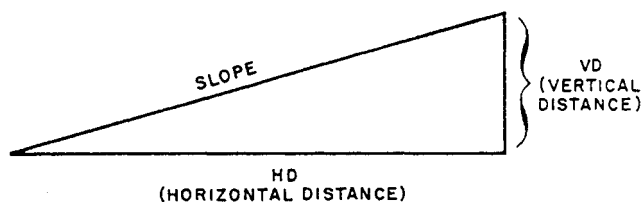

Figure 5-18.—Slope diagram.
affected by the slope of the ground. Most equipment has a limit on the steepness of slope it can negotiate. So a more exact way of describing a slope is demanded. Slope may be expressed in several ways, but all of them depend upon a comparison of vertical distance (VD) to horizontal distance (HD) (fig. 5-18). VD is the difference between the highest and lowest elevations of the slope and is determined from the contour lines. HD is the horizontal ground distance between the highest and the lowest elevations of the slope.